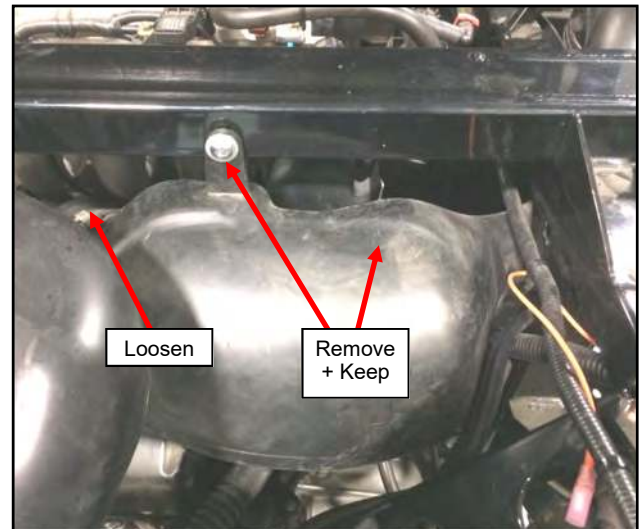

Fig. 2.11a (Remove Intake Duct Assembly, Back View)
- 2.11** Remove and set aside intake duct assembly by loosening the lower clamp and (2) mounting screws found on the vehicle's frame per fig. 2.11a & 2.11b.